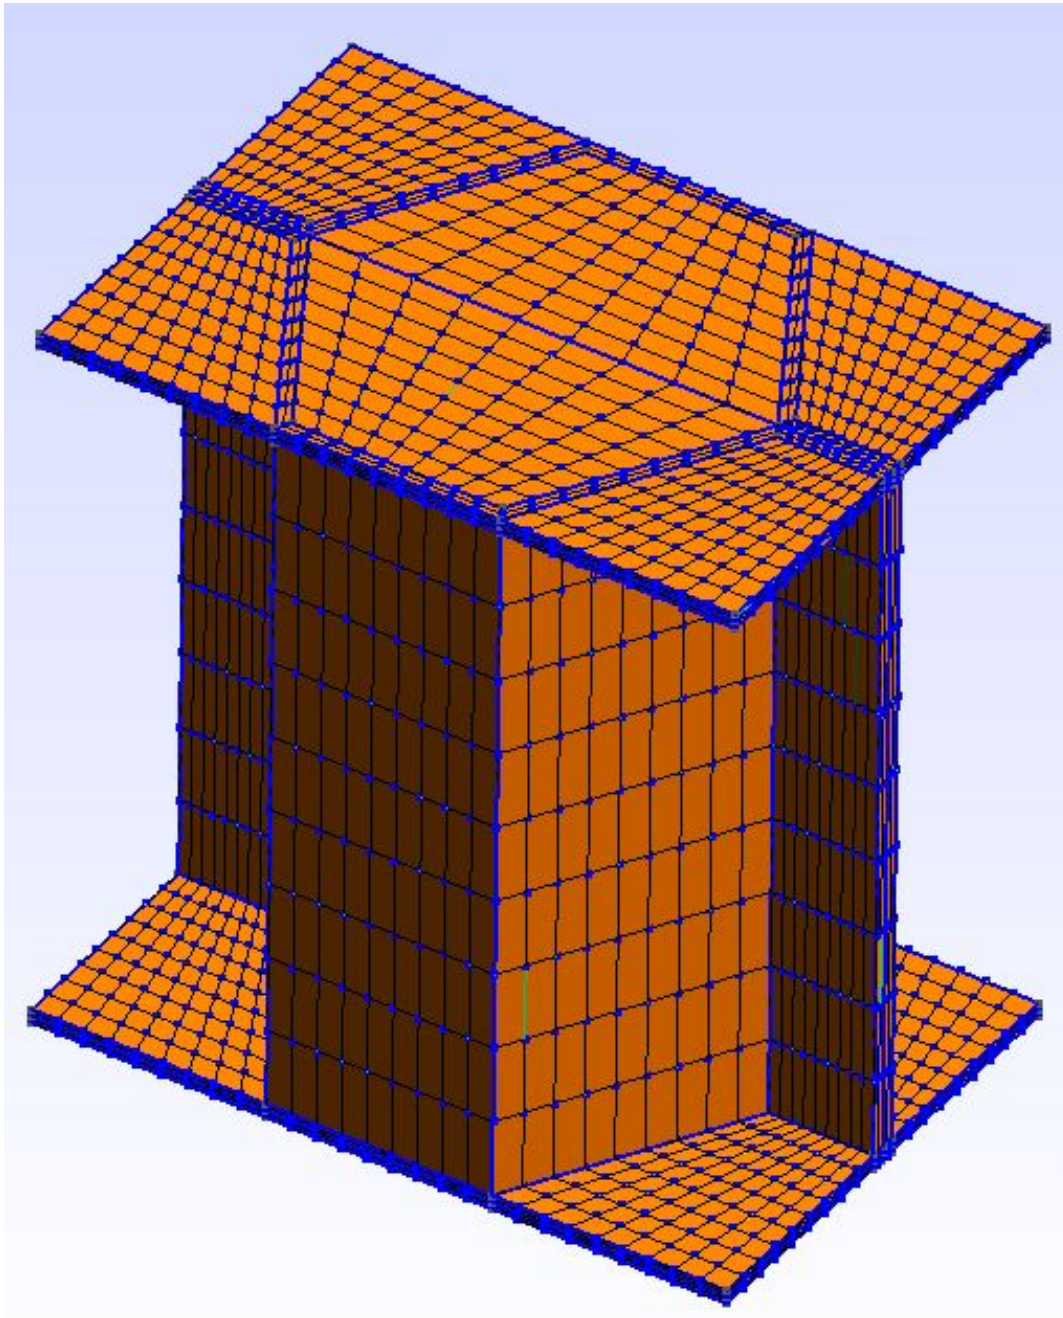

Fig. 4
* Click Mesh->Generate 3D mesh->Generate (Fig. 4.).